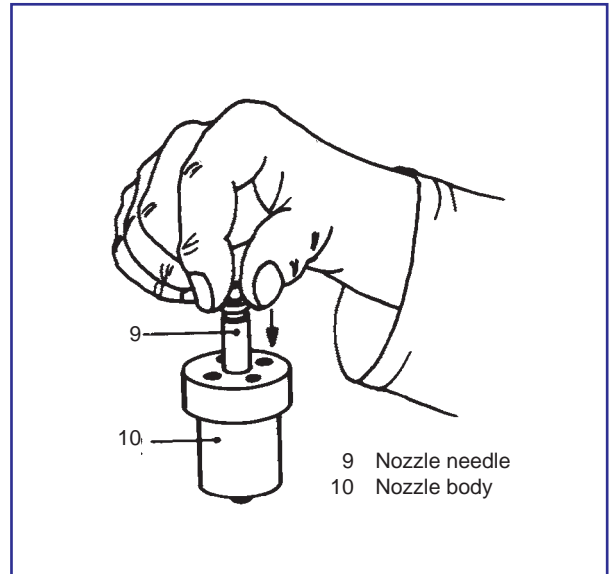

Fig 3 Checking the mobility of the nozzle needle
3) Check if nozzle needle can be moved in the nozzle body easily and without perceivable resistance, see Fig. 3.